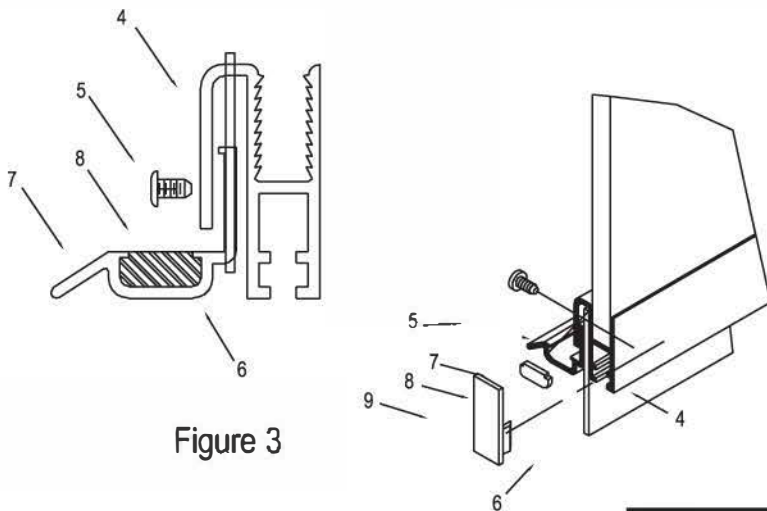

Figure 3
3. Apply bottom glazing vinyl (3) to the bottom of the glass. Hold bottom rail (4) in place against the bottom glazing channel and drive the bottom rail in place on the glass using the glazing block and a heavy steel hammer. Secure hinge rail to bottom rail using one #8 x 1 1/2" FH SMS screw (5). Start three #6 x 1/4" SMS B screws (5) into the bottom rail. Insert the splash vinyl (6) and the drip trough (7) into the bottom rail. Splash vinyl should flush off with latch end of bottom rail and butt to offset of the hinge rail at the other end. Flush-off drip trough with notchback on bottom rail at latch side. Push drip trough as far up as possible on latch side and as low as possible on hinge side and secure by tightening the three #6 x 1/4" SMS B screws (5).
4. Insert the drip plug (8) into the end of the drip trough at the handle side. Water should now drain back into the shower when the door is open. Insert the bottom rail end cap (9) in the end of the bottom rail (4) (See Figure 3).